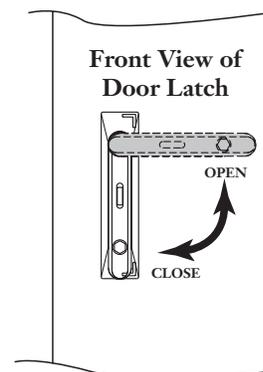

Figure 16 — Close Door Latch
Step 2 Close the doors and rotate the door latch 90 degrees in a clockwise direction to latch the doors (Figure 16).